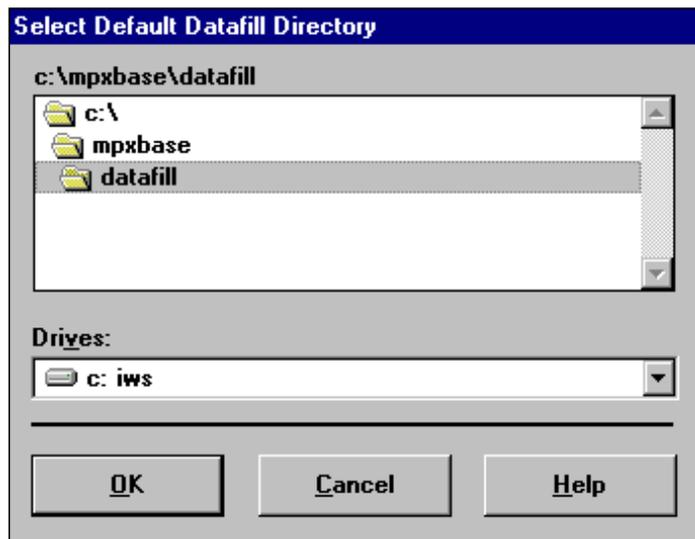

FIGURE 57. Select Default Datafill Directory dialog box
1. In the configuration window, select Datafill Path. (See Figure 57.)